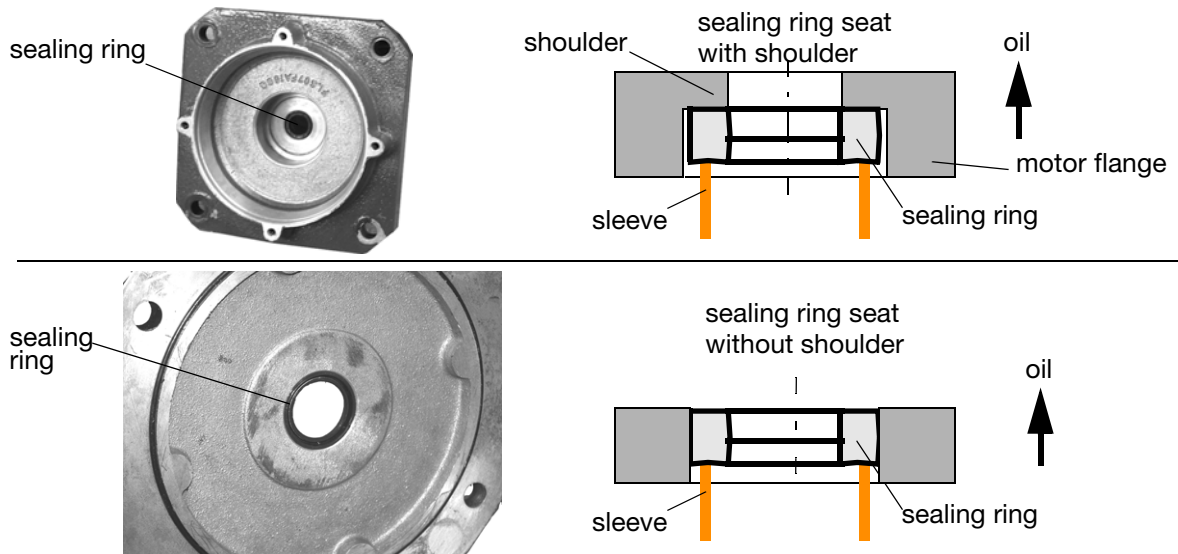

Fig. 27: Inside of the motor flange
- Grease the new sealing ring and press it in the flange as shown in fig. 27; make sure that the „open“ part of the sealing ring points towards the oil (when the motor is mounted to the actuator); see fig. 27.